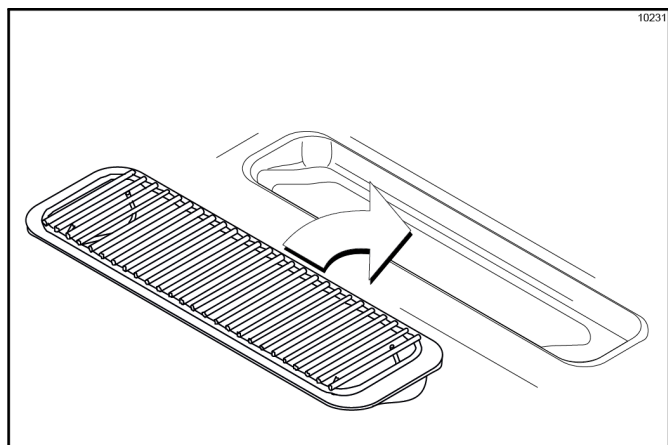

Figure 6-28
- Install the front drip tray and splash shield under the door spouts. (See Figure 6-28.)